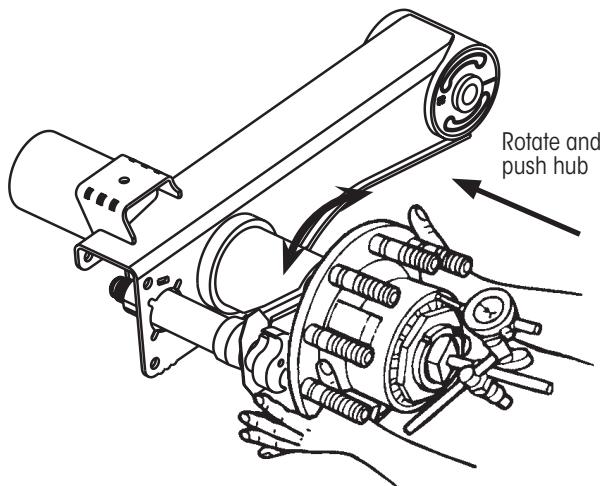

Figure 5: Checking inward end-play
NOTE: A reasonable assessment can be performed without removing tires and rims. However, this procedure is best performed with hub only as shown in Figure 5.
8. **Grasp** hub flange, as shown in Figure 5, and **push** the hub inward **while rotating** the hub slightly in both directions (15 - 30° between two holes) until the dial indicator reading remains constant. **Record** reading.